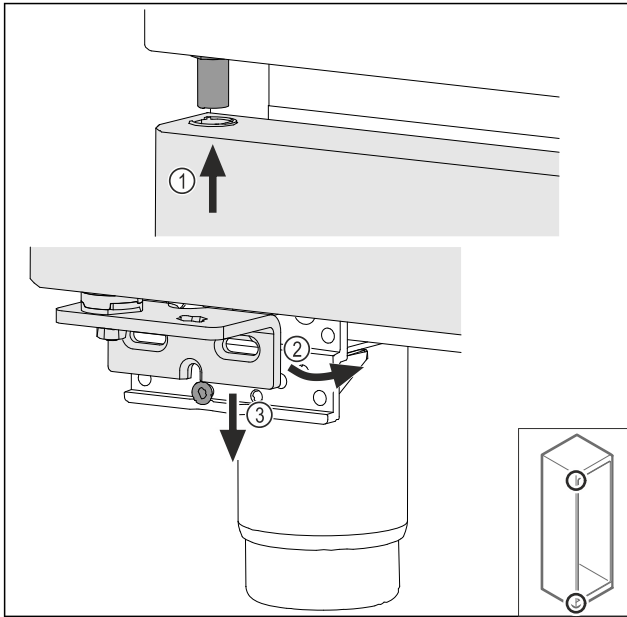

Fig. 42
- Insert the door slightly tilted at the top Fig. 42 (1), align the door straight Fig. 42 (2) and place it on the bottom of the swap bearing block screw Fig. 42 (3).